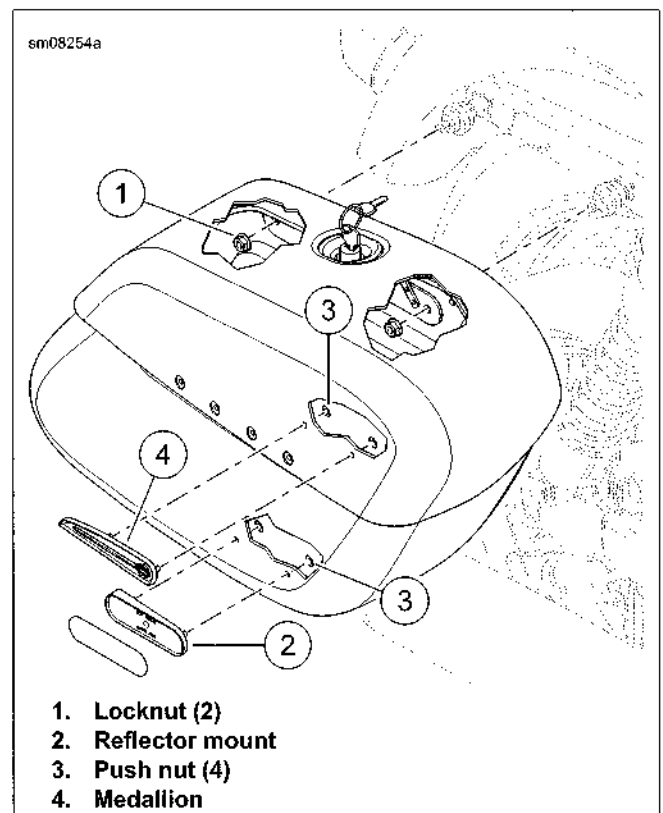

Figure 2-139. Saddlebag
1. See Figure 2-139. Clean the reflector mount (2) with soap and water. Allow the mount to dry.
2. Secure the reflector mount with two push nuts (3) inside saddlebag.
1. See Figure 2-139. Fit the saddlebags to the mounting screws.
2. Install the saddlebag locknuts (1). Tighten to 17-23 ft-lbs (2.0-2.5 Nm).